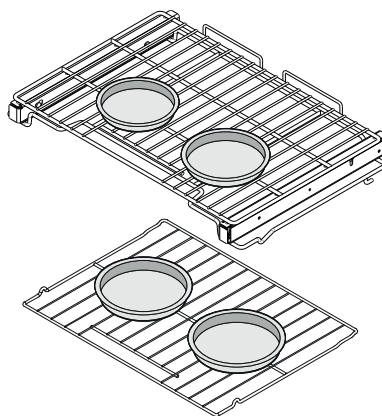

Figure 18: Pans spaced for baking cakes
- For baking cakes use the following rack positions and place bakeware as shown in Figure 18.